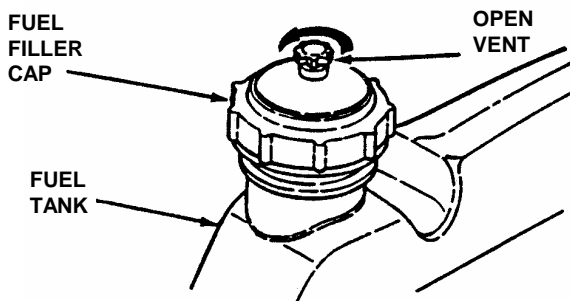

FIGURE 2.2
2.1.8. Add fuel to tank after pushing the Rear Engine Rider outside where fumes can dissipate. Make sure fuel filler cap is tight and vent is open after refueling. Refer to engine owner's manual for fuel specifications. See Figure 2.2.